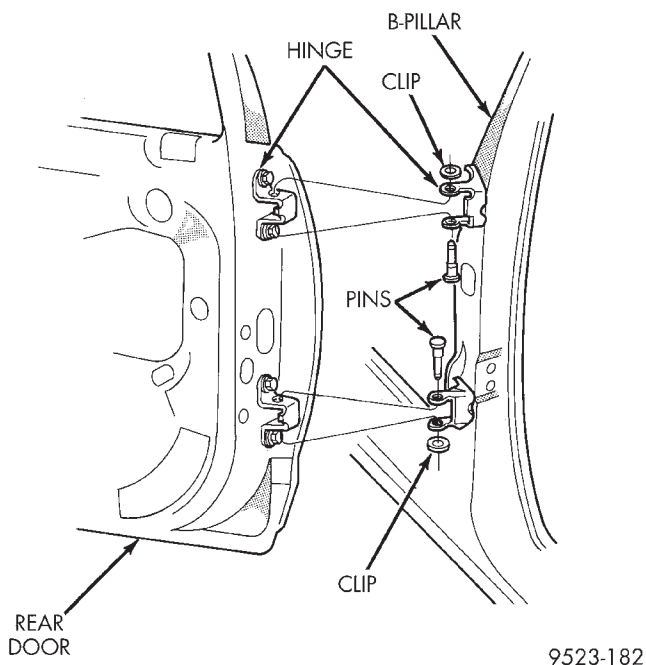

Fig. 43 Rear Door
- (1) Open and support door on a suitable lifting device.
- (2) Disengage wire connector at hinge pillar.
- (3) Remove bolts holding door check strap to B-pillar.
- (4) Remove clip holding hinge pin in lower door hinge (Fig. 43).
- (5) Remove pin from lower hinge.